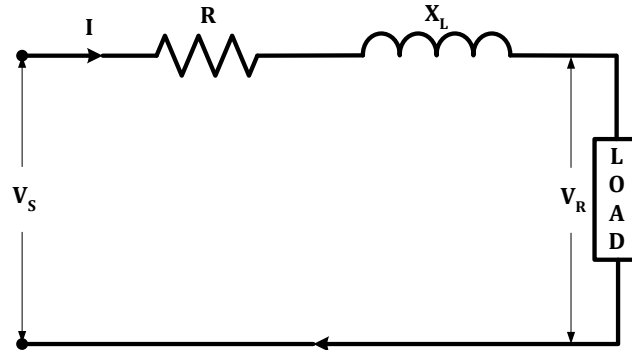

Figure 1.8 Circuit of Short Transmission Lines
- In short transmission lines, the effect of line capacitance is neglected. Fig. 1.8 shows the circuit of short transmission line (1 Phase).